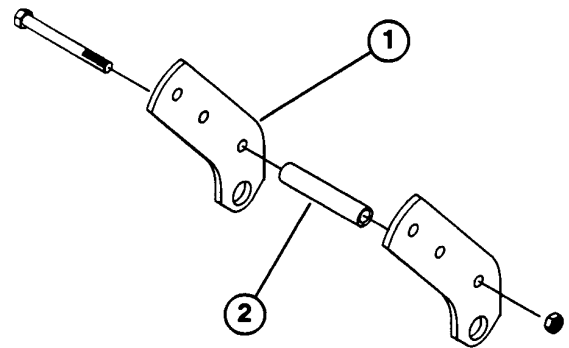

Figure 3
2. Remove the capscrews and locknuts securing the rear pivot plates to the right and left bed frame channels (Fig. 3).